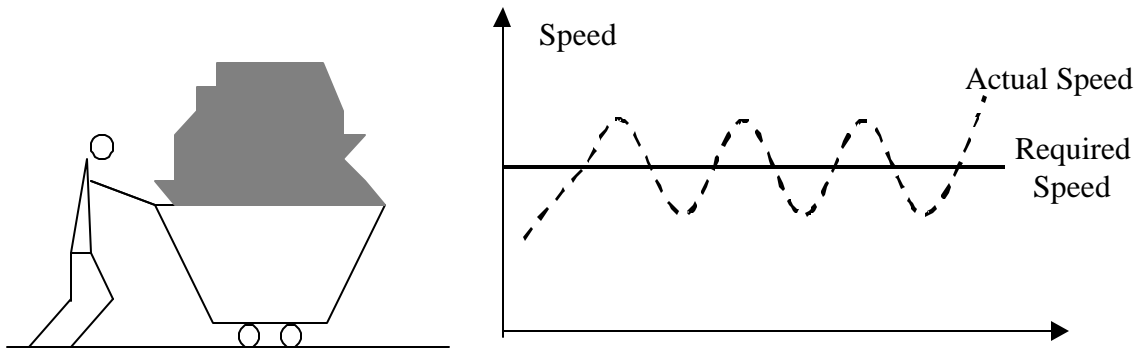

Figure 6. Pushing a Heavy Cart of Coal on a Flat Surface
*FV* creates a voltage that is proportional to the speed of the motor in the direction of motion. In other words, it pushes the motor forward, and when the motor is commanded to run faster, it pushes harder. This feed forward term blindly adds the voltage to the control output regardless of whether the motor is ahead or behind of its goal position. This command can be very helpful when the motor is driving a big load while maintaining a slow speed. Imagine that the person in Figure 6, pushing his heavy cart filled with coal.